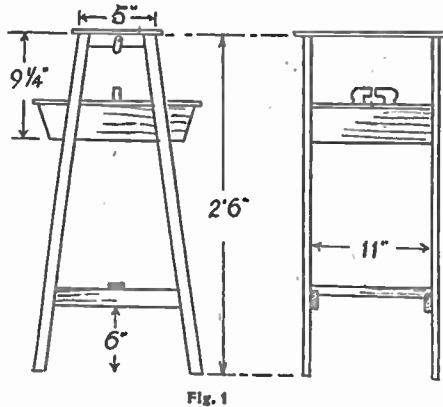
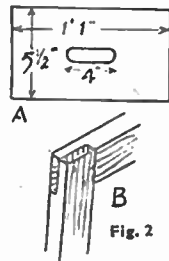

Fig. 1
Fig. 2
Nail and glue the rails permanently to the legs, and when the glue is set hard, trim off all projecting pieces, and cut the bottoms of the legs to bed flat to the floor. See that both frames are alike, and at the distance down, shown in Fig. 1, square lines across where the workbox will come later on. Now cut the bottom cross rail, reduce the ends of this to half thickness, where it comes over the side rails, and there nail and glue it in position. It adds to the neat effect generally, to slightly bevel off the square
Now fix the workbox to the side frames, at the distance from the top given in Fig. 1, using a single screw to each leg, and, preferably, driven in from inside the box. Open up the lids, and fix to the outsides of the top rails a wood or metal button, which can engage with the handles, and keep the lids open when the workbox is in use. Now cut the top, the size of which is given at (A) in Fig. 2. In the centre saw out the slot shown, 1in. wide, and glasspaper the edges of it, as it serves as a finger grip for carrying the
A side and end elevation are given in Fig. 1, with suitable dimensions. Make a start with the side frames, which also include the legs. It will be seen these are splayed outwards to help make a stable fixture. As all sizes of timbers to be used are given in the cutting list, it is not necessary here to refer to them. Cut the legs of the side frames, and short and long rails to length first. Join each pair of legs together at the bottom with the long rails, using a single nail to each first, partly driven in. Place the short rails across at the top, and press the legs inwards to join them. Mark the slope of